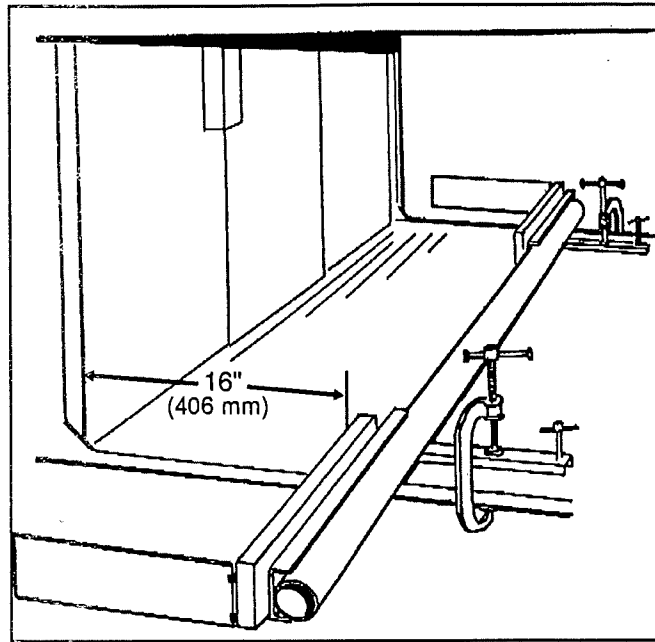

FIG. 4 - Installation of screen and support assembly in first baggage compartment of front section
3. Install the screen and support assembly in the first baggage compartment of front section. Assembly must be installed at an equal distance of compartment frame on both sides (about 16" (406 mm) from baggage compartment frame). Refer to figure 4 for details. Fix assembly with C-clamps.